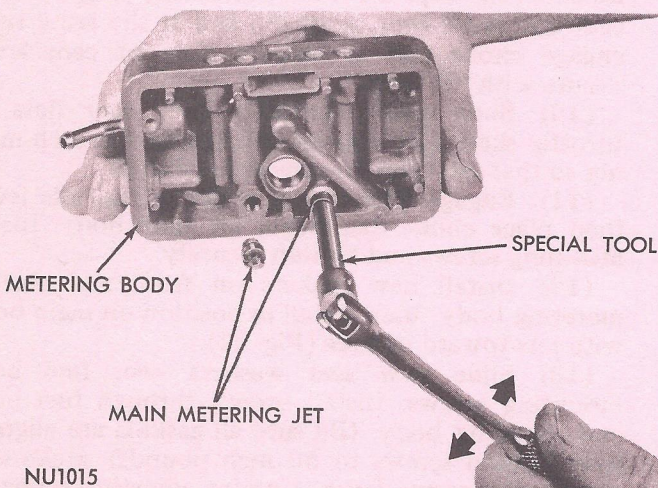

Fig. 16—Removing or Installing Main Metering Jets
- (1) Install main metering jets (No. 63) in metering body, using Tool C-3747. Tighten securely (Fig. 16).